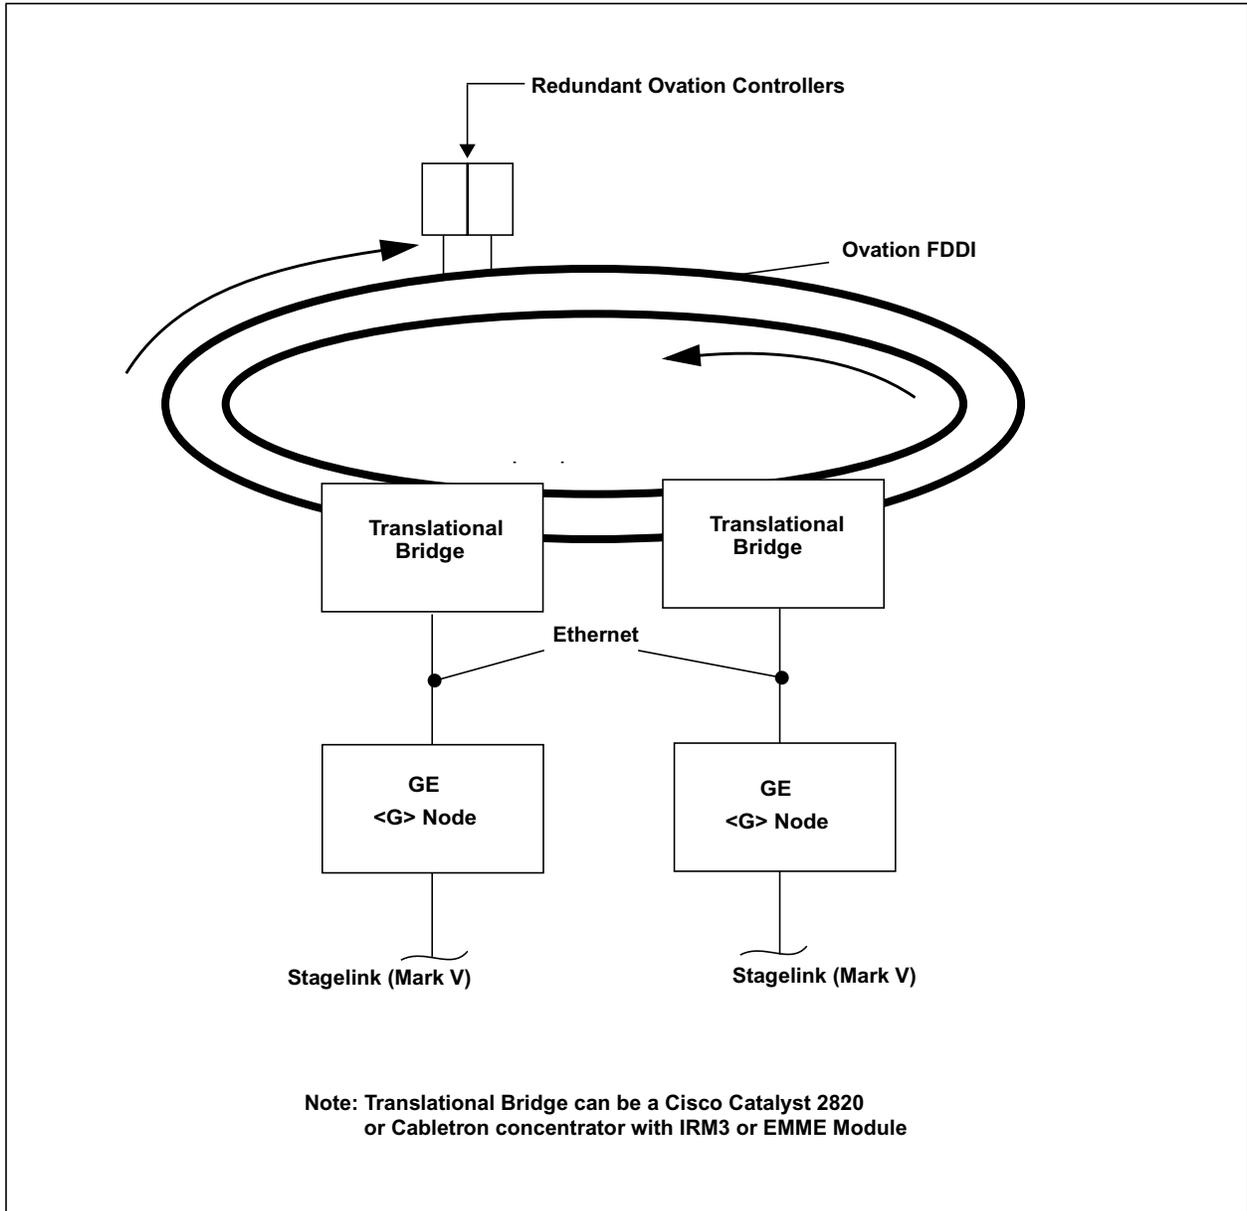
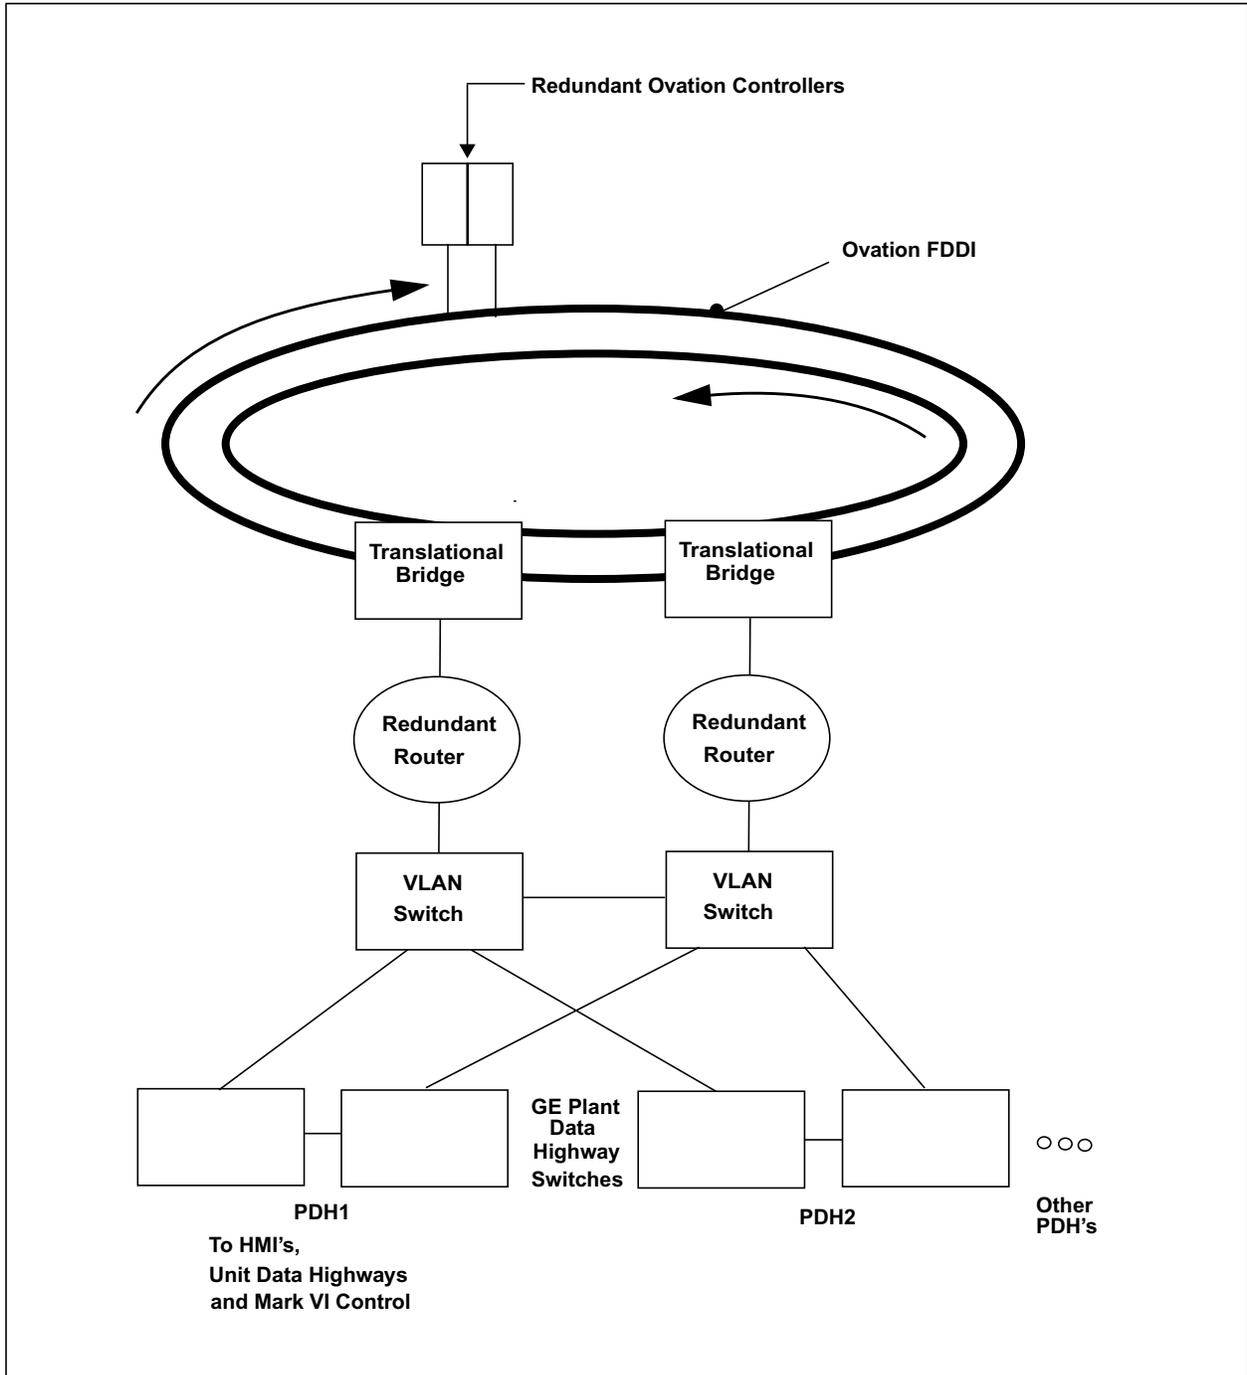
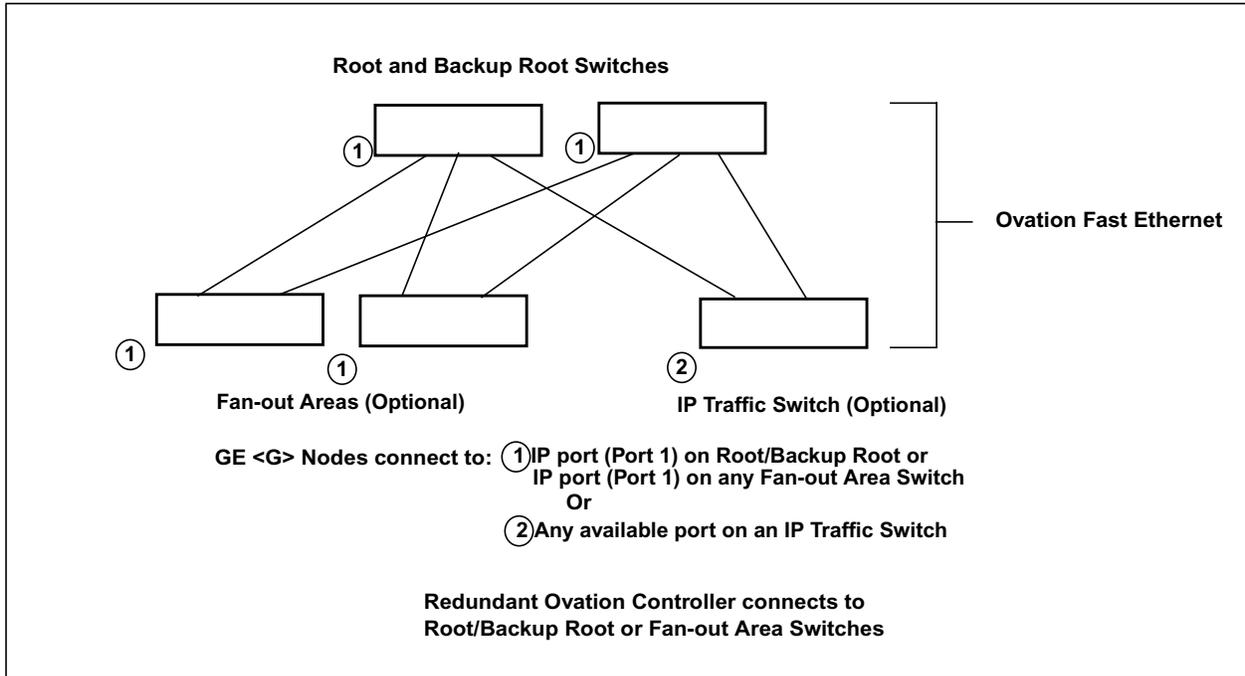
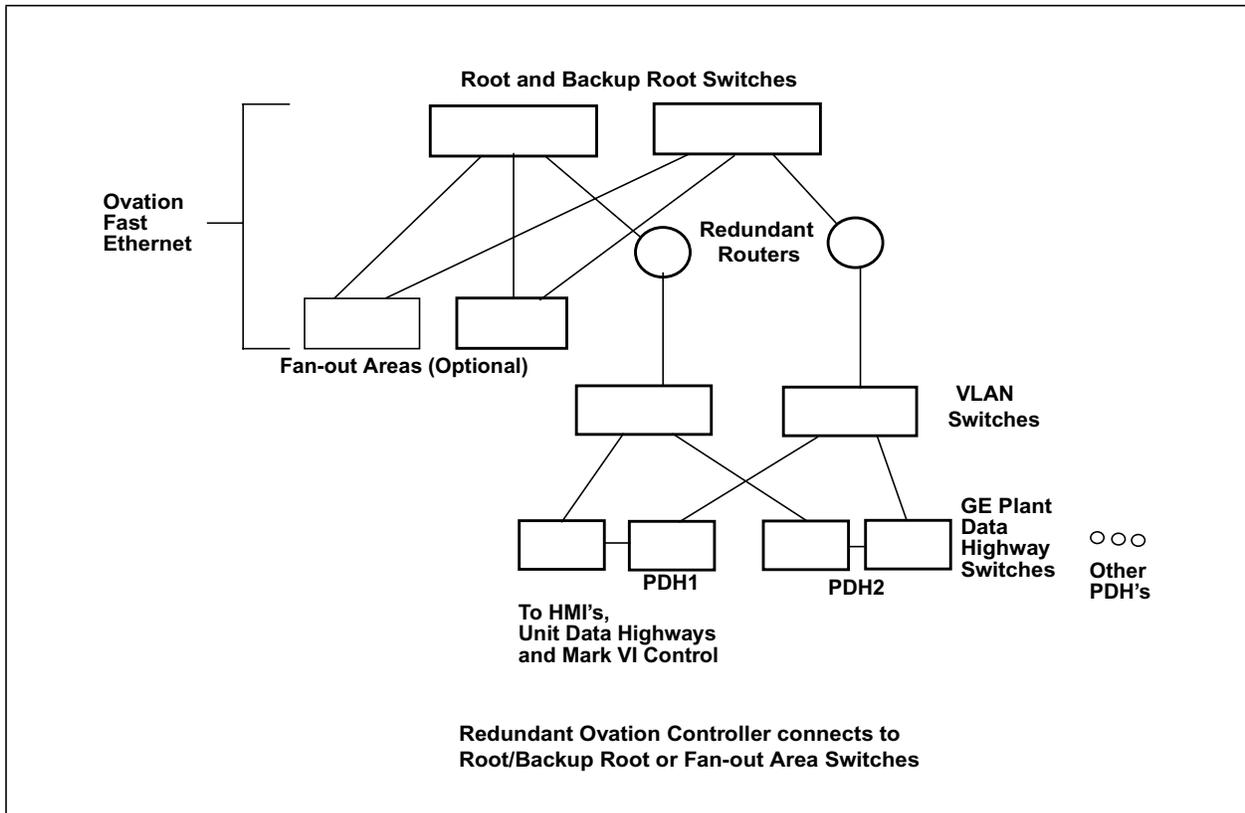

Figure 2-1. Ovation FDDI Mark V via <G> Node
Figure 2-2. Ovation FDDI Mark V or Mark VI via HMI
Figure 2-3. Ovation Fast Ethernet, Mark V via <G> Node
Figure 2-4. Ovation Fast Ethernet Mark V or Mark VI via HMI
- The Ovation Network can be either FDDI or Fast Ethernet. Figure 2-1 and Figure 2-2 show the network topologies for Ovation FDDI systems. Figure 2-3 and Figure 2-4 show the network topologies for Ovation Ethernet systems.